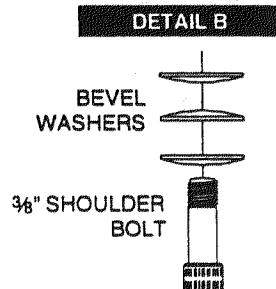

FIGURE 10-39. CRT mounting hardware.
10.7.1 9" CRT Removal Procedure: (CONTINUED): Refer to Figure 10-39
- Refer to Figure 10-39, detail A and B when installing the top/bottom 3/8" shoulder bolts and bevel washers, install bottom bolt/washers. Firmly tighten then back-off 1/4 to 1/2 of a turn. Install top bolt/washers in the same manner allowing the CRT assembly to swing in and out smoothly.